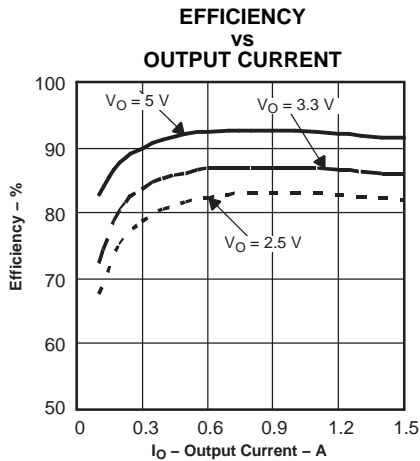
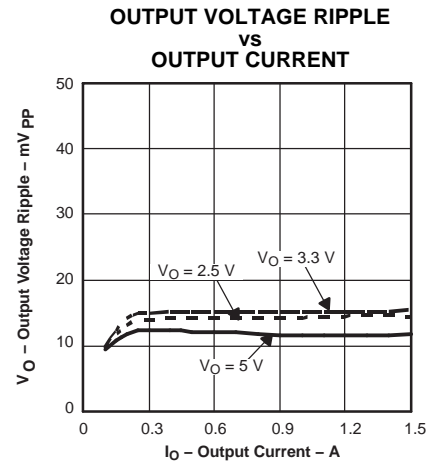
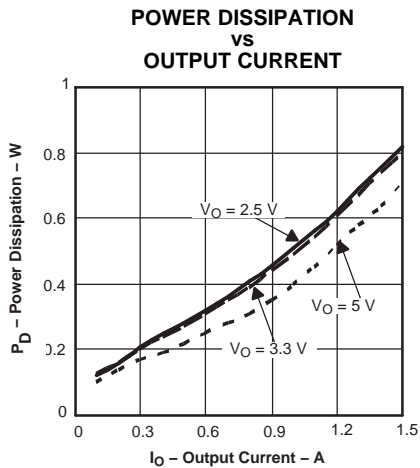

Figure 1.
Figure 2.
Figure 3.
- (1) The electrical characteristic data has been developed from actual products tested at 25° C. This data is considered typical for the converter. Applies to Figure 1, Figure 2, and Figure 3.